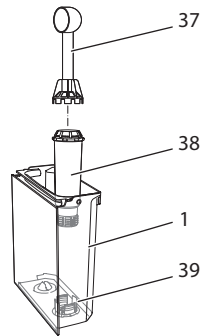

Fig. 18: *Screwing/Unscrewing the water filter*
- Remove the water filter when the appliance requests you to do so (see Fig. 18).